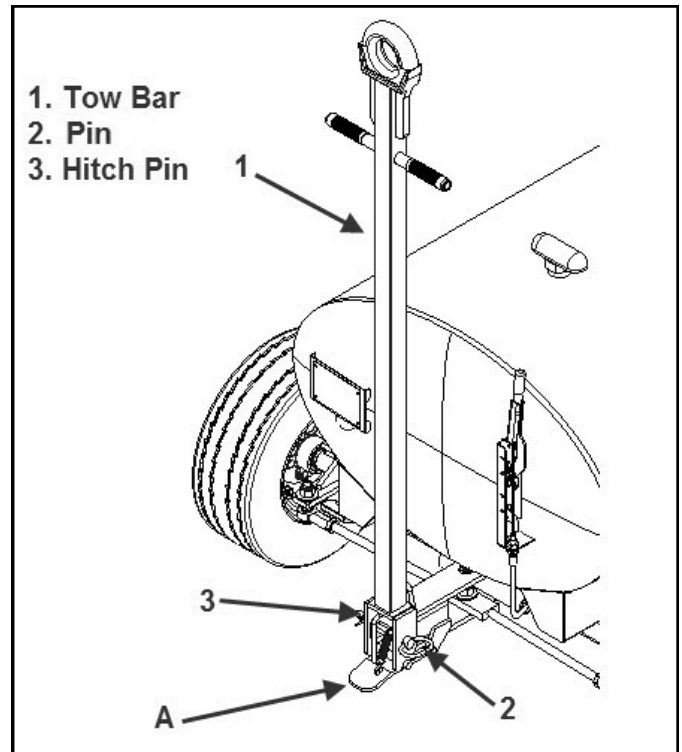

Figure 4-4 Tow Bar Removal
- Raise equipment with suitable maintenance jack (see Figure 4-4 arrow A for jack placement) to allow four inches of space between the wheels and ground.